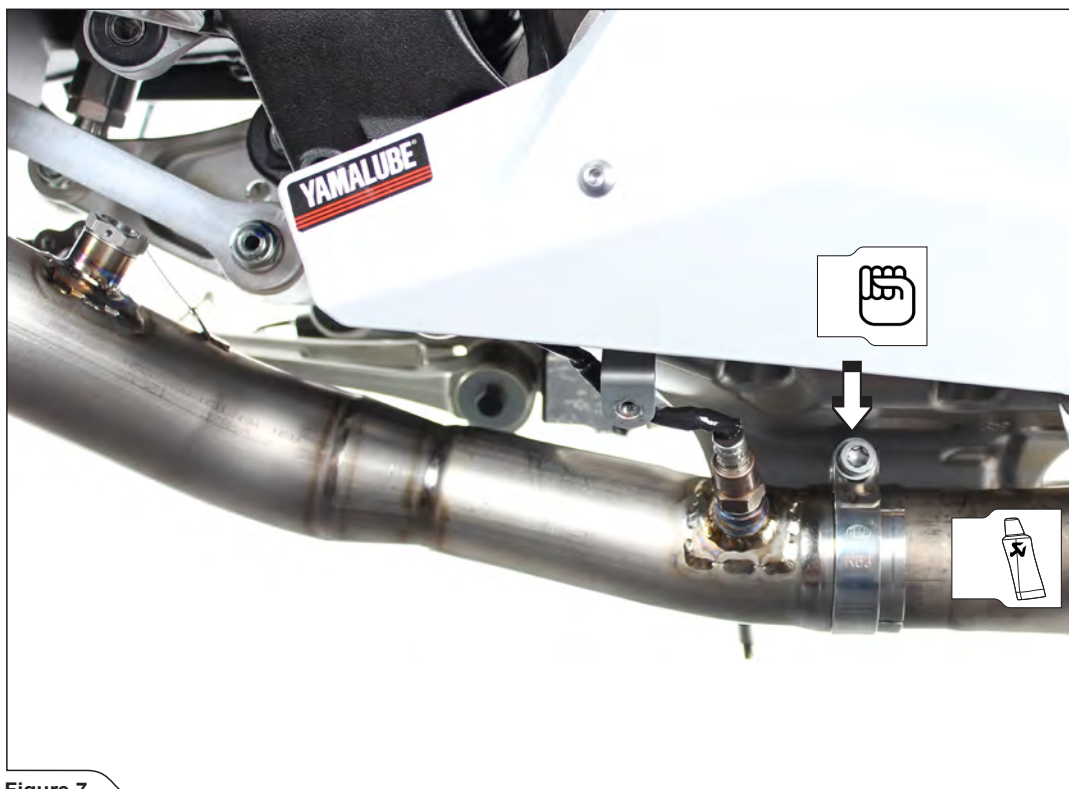

Figure 7
3. Slide the link pipe onto the collectors and only hand tighten connection clamps on both sides (Figure 7).